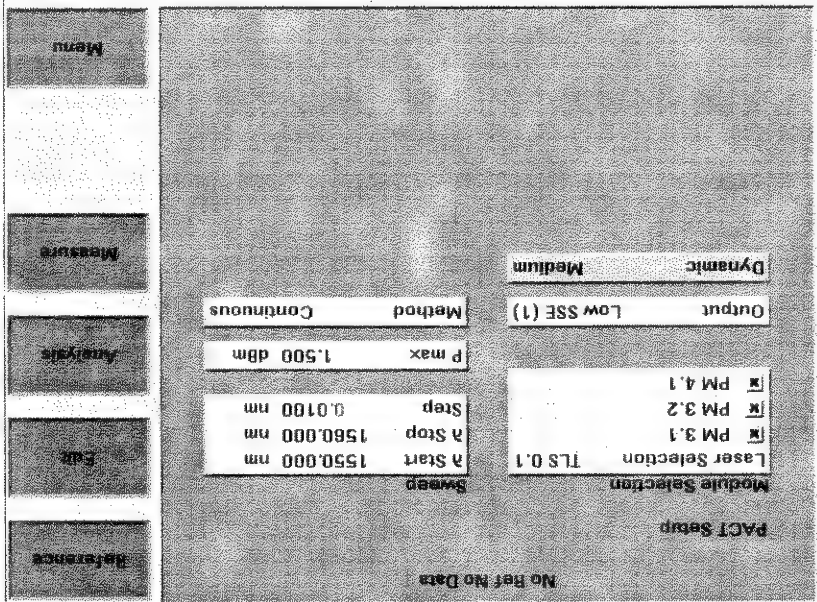

Figure 131 The PACT Setup Screen
- 4 Move to <PACT> and press *Enter*. The PACT Setup Screen, as shown in Figure 131, appears.